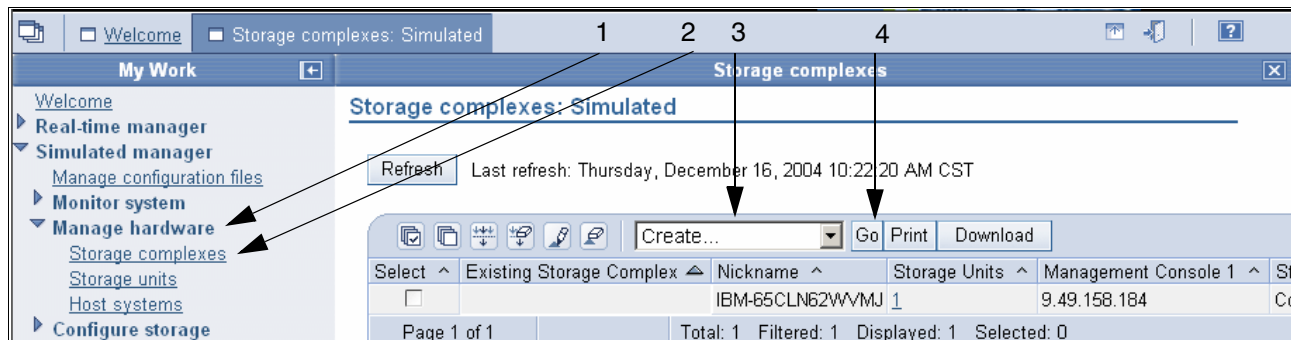

Figure 9-23 View of the Select Action pull-down menu with Create, selected
To create the storage complex in simulated mode, expand the **Manage Hardware** (1) section, click **Storage complexes** (2), click **Create** from the Select Action (3) pull-down and click **Go** (4), as shown in Figure 9-23. Follow the panel directions with each advancing window.